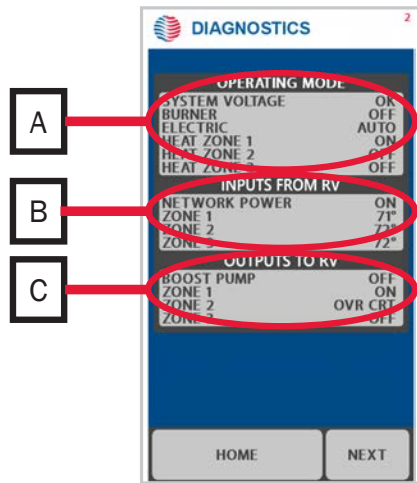

Figure 7
- 71°: This indicates the set-point of the RV thermostats. The example in Figure 7 is showing the RV thermostat is requesting it be 71°F in Zone 1. This is only available with certain RV thermostats.
In the example in Figure 7, the controller is not sending power to the boost pump, so the boost pump is shown as OFF.